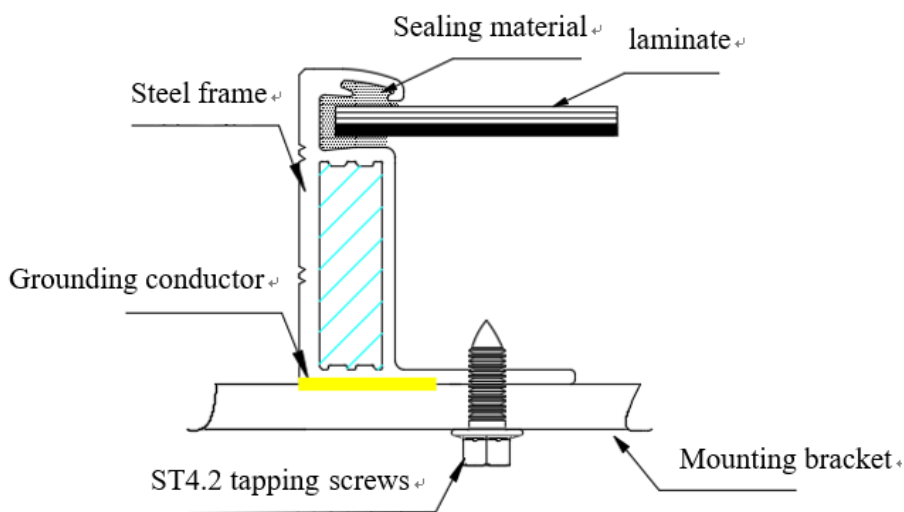

Fig.11.2 ST4.2 tapping screws grounding
- On a grounding hole with a diameter of  $\phi 4$  mm, use a separate grounding wire and related accessories to connect the frame and connect the grounding wire to the ground. M4 x 12mm ground bolts with M4 nuts, star washers and plain washers are recommended for the aluminum frame, M4 tapping locking screws or ST4.2 tapping screws are recommended for high-strength alloy steel frames, see fig.11.2, this ensures that the modules are firmly grounded. You can find the corresponding product drawing in module datasheet to know the detailed number, size and position of the grounding holes. The torque applied to ground fixation is 4N· m~8N ·m.